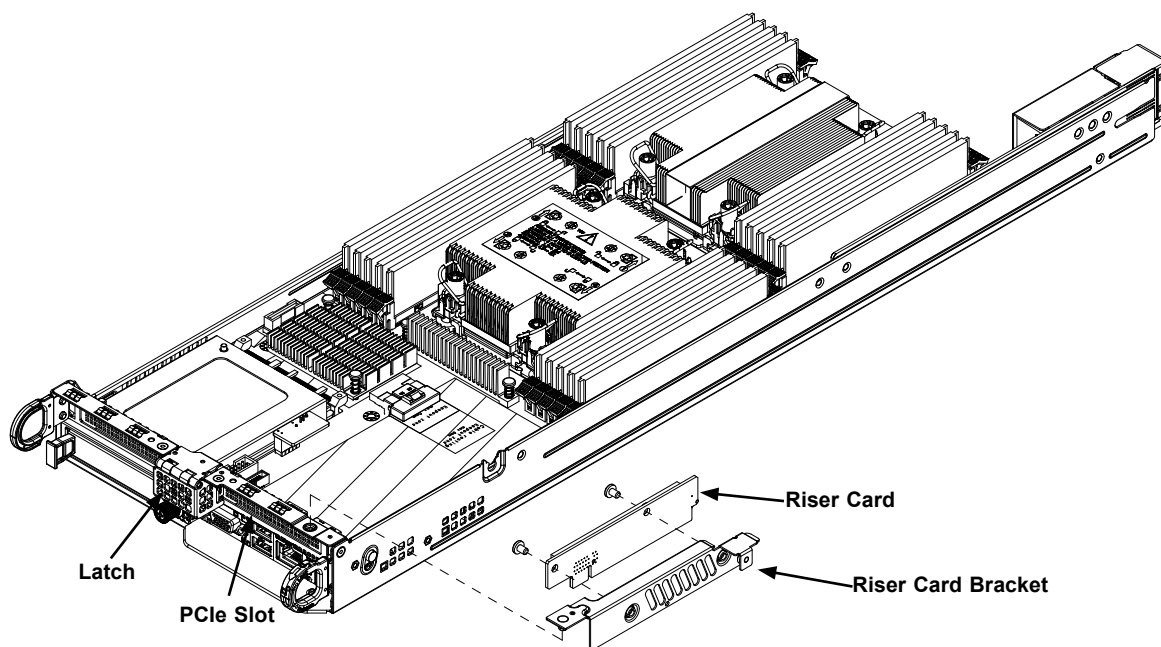

Figure 3-10. Installing an Expansion Card
2. Remove the expansion card screw (See Figure 3-10) and set aside. Remove the PCI slot shield.